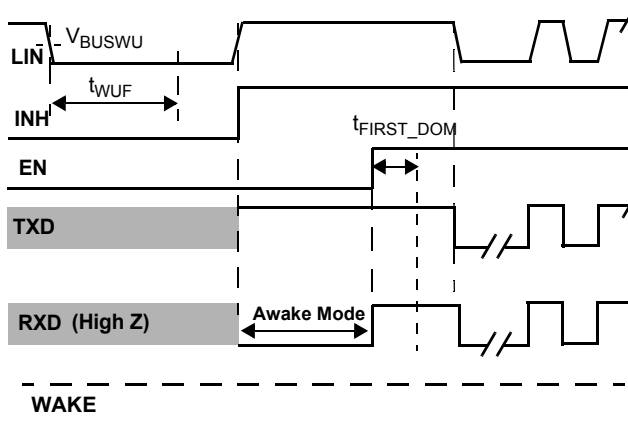

Figure 16. LIN Bus Wake-up with TXD High
26. See Figure 16, 19, and Figure 20